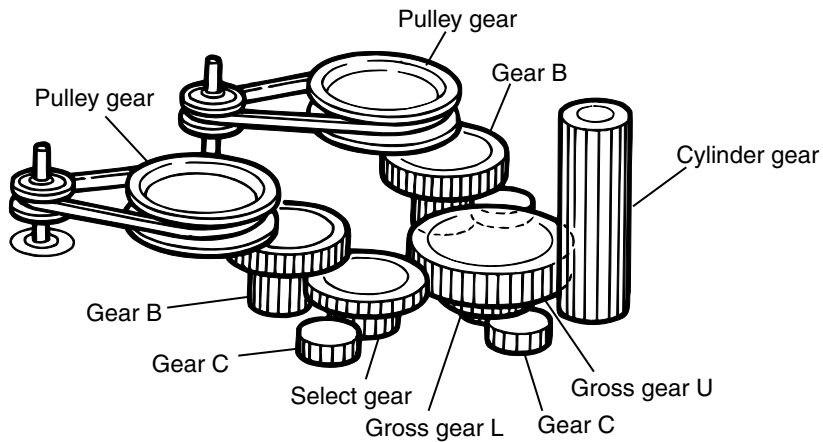

Fig.22
**[Note]** When the chassis assembly is turned over under the conditions wherein the gear bracket and belt have been removed, then the pulley gear as well as the gear, etc. constituting the gear unit can possibly be separated to pieces. In such a case, assemble these parts by referring to the assembly and configuration diagram in Fig. 22.